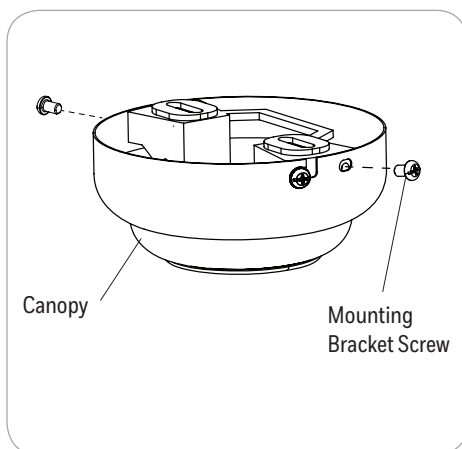

Figure 2.1
1. Loosen all four mounting bracket screws and completely remove the two screws from the round holes in the canopy. Then remove mounting bracket from the canopy and save the screws for later (Figure 2.1).